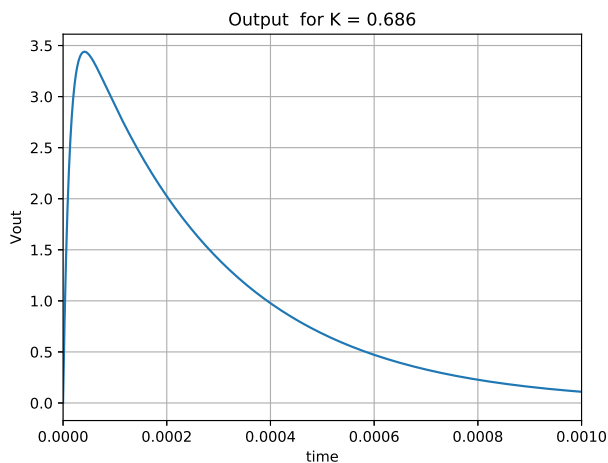

Fig. 10
- Figure 10 is the spice simulated output for K = 0.686 using Table 9 parameters.